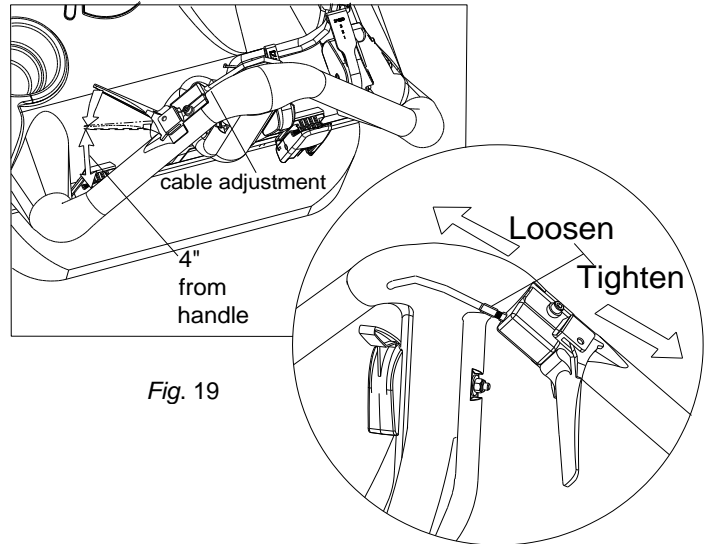

Fig. 19
3. Tighten or loosen cable adjuster nut next to the clutch lever until drive engages at 4" from handle. (See *Fig. 19* next page)